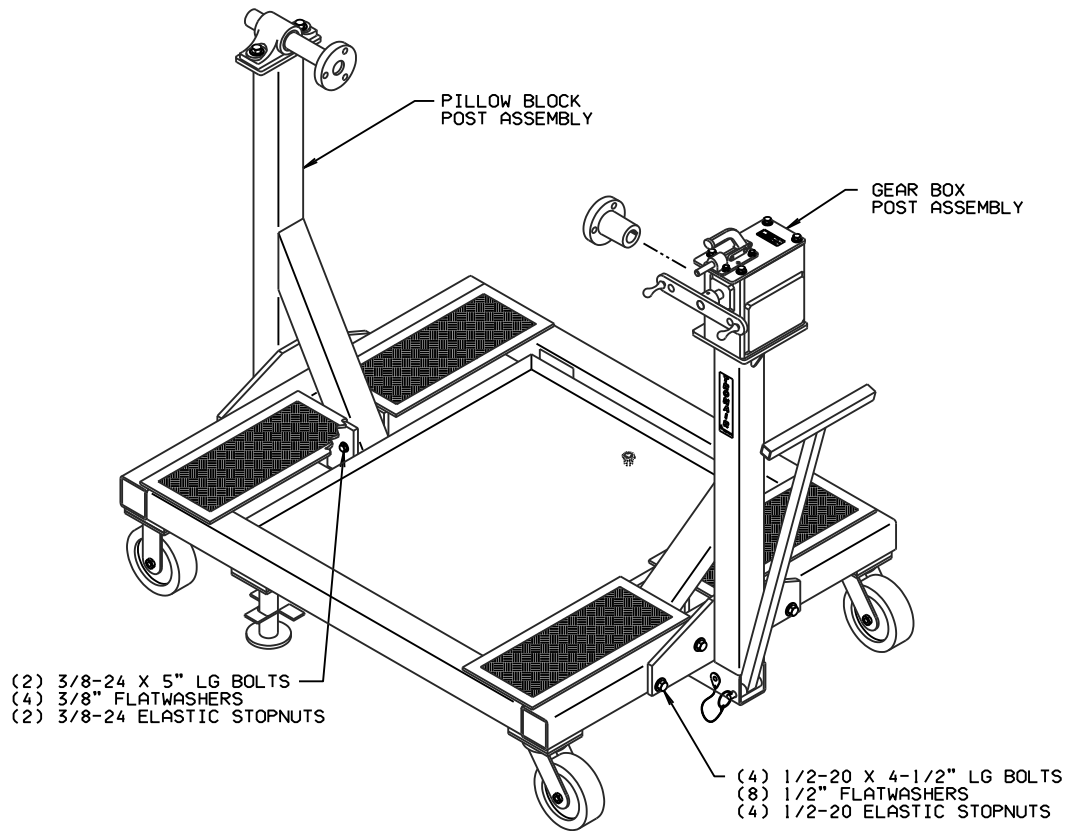

FIGURE 2
**Pillow Block Post Assembly To Base: (Figure 2)**
1. Attach post assembly to base using (4) 1/2-20 x 4-1/2" long hex head bolts, (8) 1/2" flatwashers and (4) 1/2-20 elastic stopnuts. Use (2) 3/8-24 x 5" long hex head bolts, (4) 3/8" flatwashers and (2) 3/8-24 elastic stopnuts to attach post assembly to base at other location as shown.
**Gear Box Post Assembly To Base: (Figure 2)**